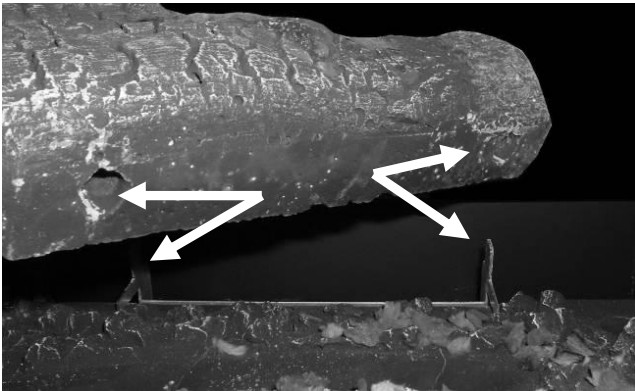

Figure 32 – Log 1 Mounting Detail
2. Place log 1 on support bracket as shown in Figures 32 & 33.